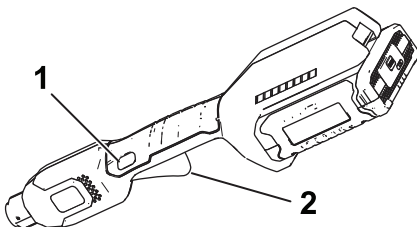

Figure 8
4. To start the trimmer, press the lock-out button, then squeeze the variable-speed trigger (Figure 8).